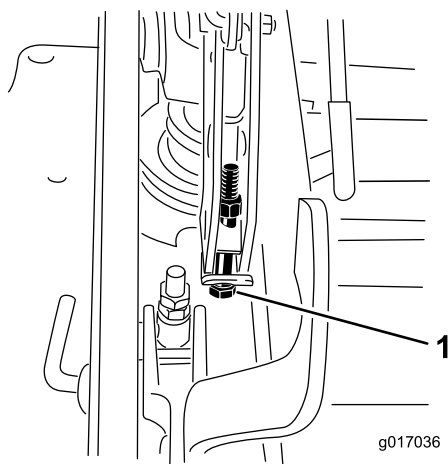

Figure 92
13. If the deck is too low, tighten the single point adjustment bolt by rotating it clockwise. If the deck is too high, loosen the single point adjustment bolt by rotating it counterclockwise (Figure 92).